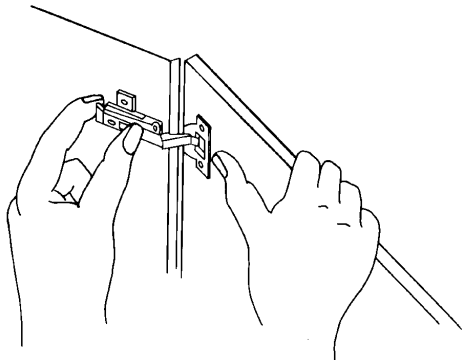

FIGURE 10
- 1. Remove the door from the cabinet assembly. The door is fitted with quick release hinges (see Figure 10). Hold the door and pull the quick release levers at the rear of the hinges.